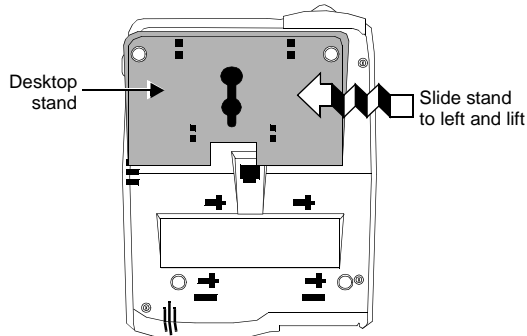

Figure 3. Sliding the Base from the Bottom of the Set
2. Remove the desk stand by sliding it to the left until it is free of the telephone base. See Figure 3.
3. Remove the mounting base by sliding the base to the left until it is free of the telephone. See Figure 3.